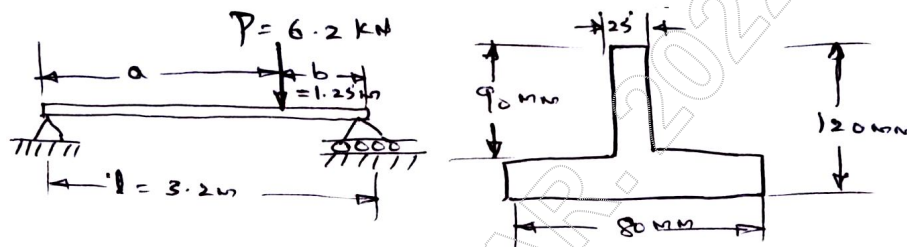

Fig.Q7(b)
- b. Determine the maximum tensile stress  $\sigma_t$  and maximum compressive stress  $\sigma_c$  due to the load  $P$  acting on the simple beam AB as shown in Fig.Q7(b). Find the value of  $b$  for which tensile and compressive stress will be largest. What are these values?